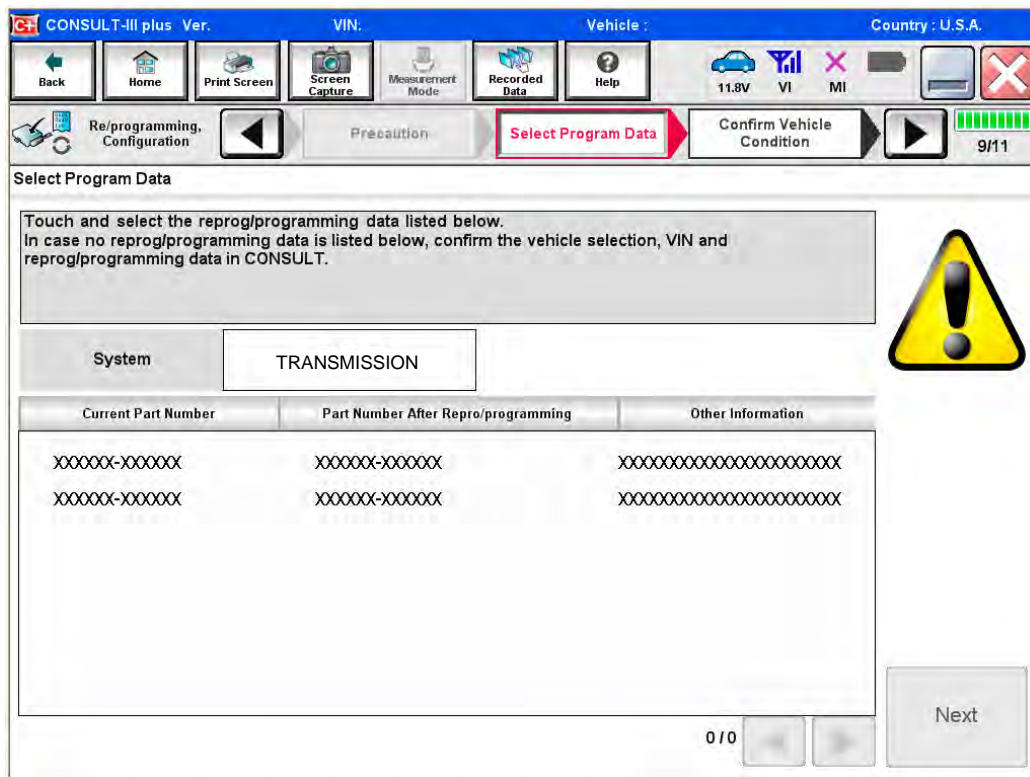

Figure 3B
- If more than one new P/N is available, the screen in Figure 3B displays.